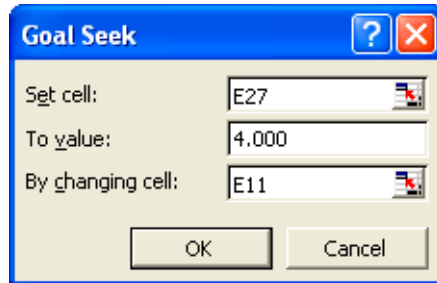

Figure 18 Goal Seek
- 2 Fill in **E27** (Flow to Detector 1) as the set cell, **4.00** as the value, and **E11** as the cell to be changed (Figure 18).